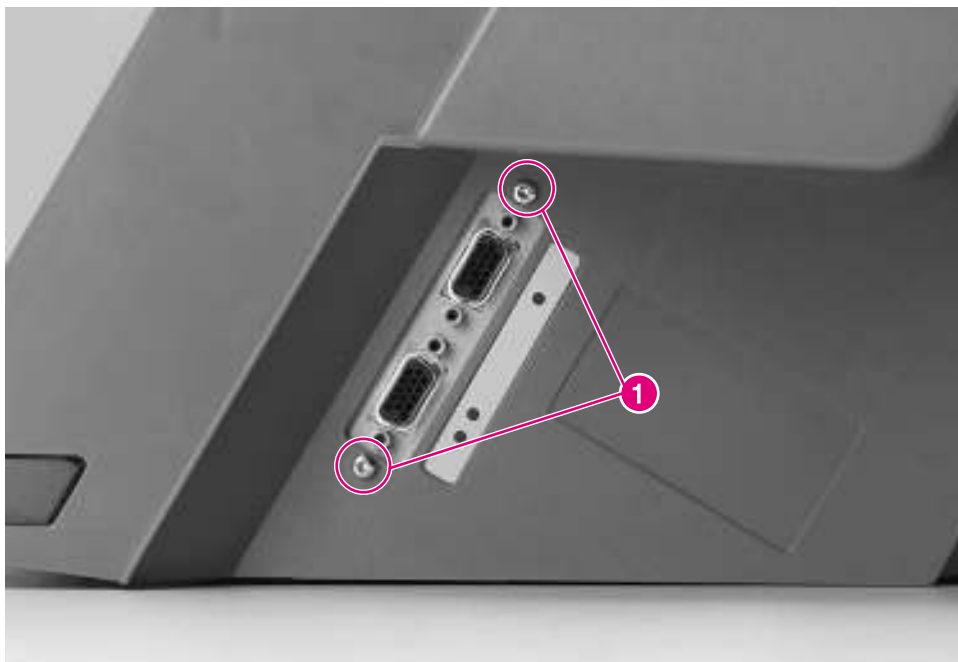

Figure 6-184 Stapler Controller PCA (1 of 3)
- 3 Remove 2 screws located on the right side of the Stapler (see figure 6-184, callout 1).